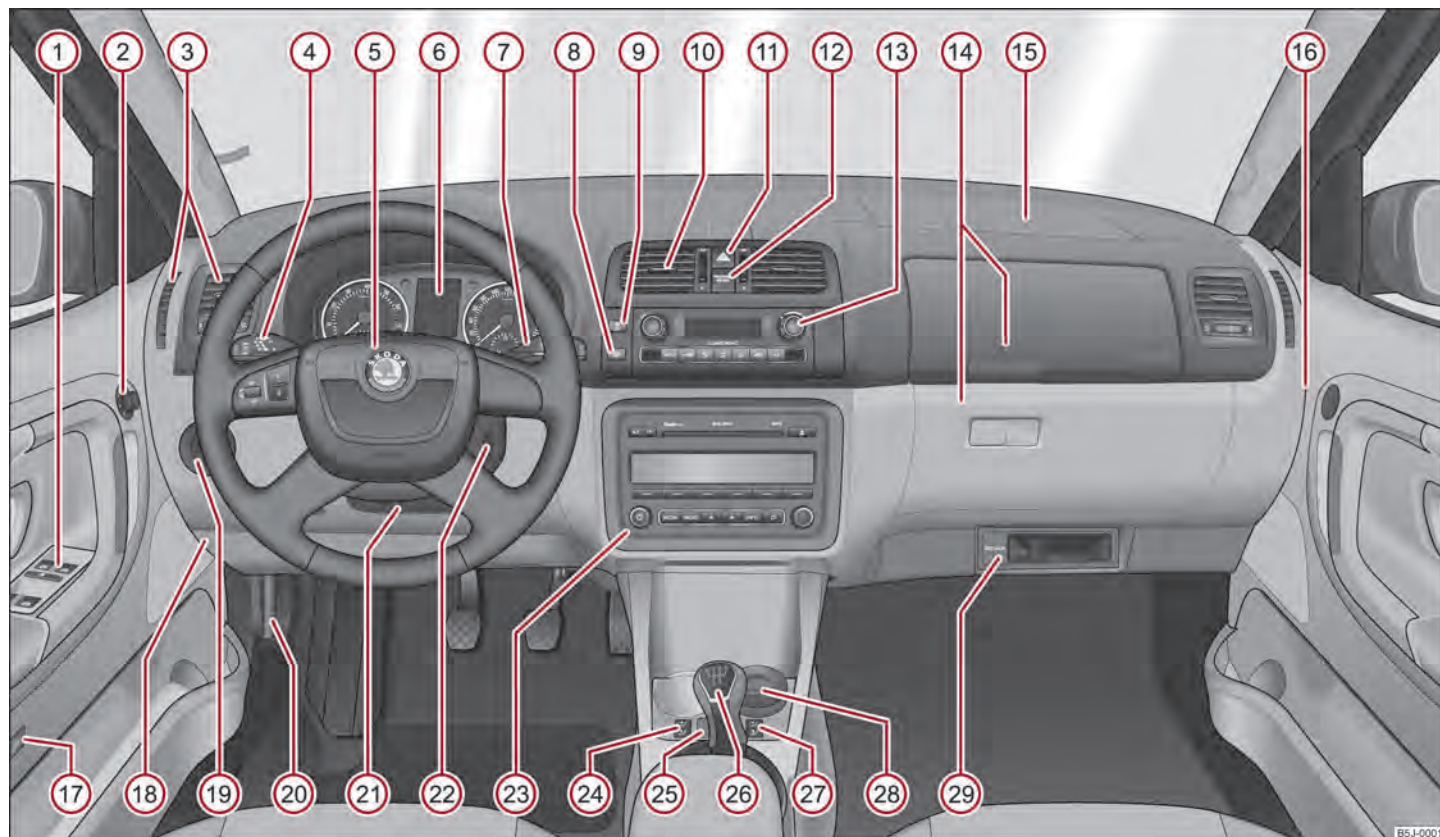

Fig.1 Cockpit
- The arrangement of the controls and switches and the location of some items on right-hand drive models may differ from that shown in ⇒ fig. 1. The symbols on the controls and switches are the same as for left-hand drive models.